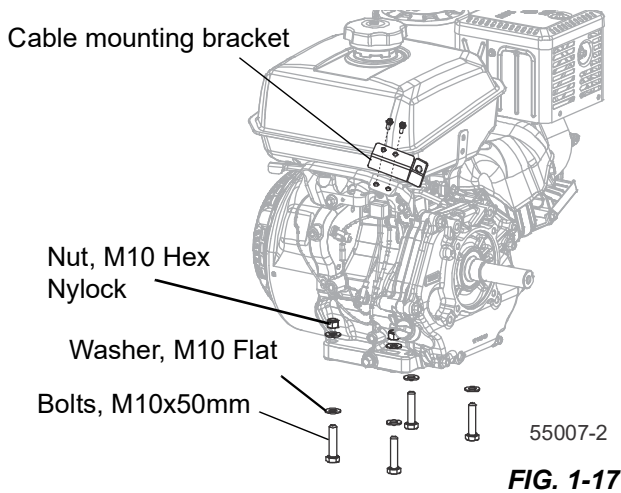

FIG. 1-17
1. Place the latch hook into the top center of the saw head with the fasteners provided. See FIG. 1-17.